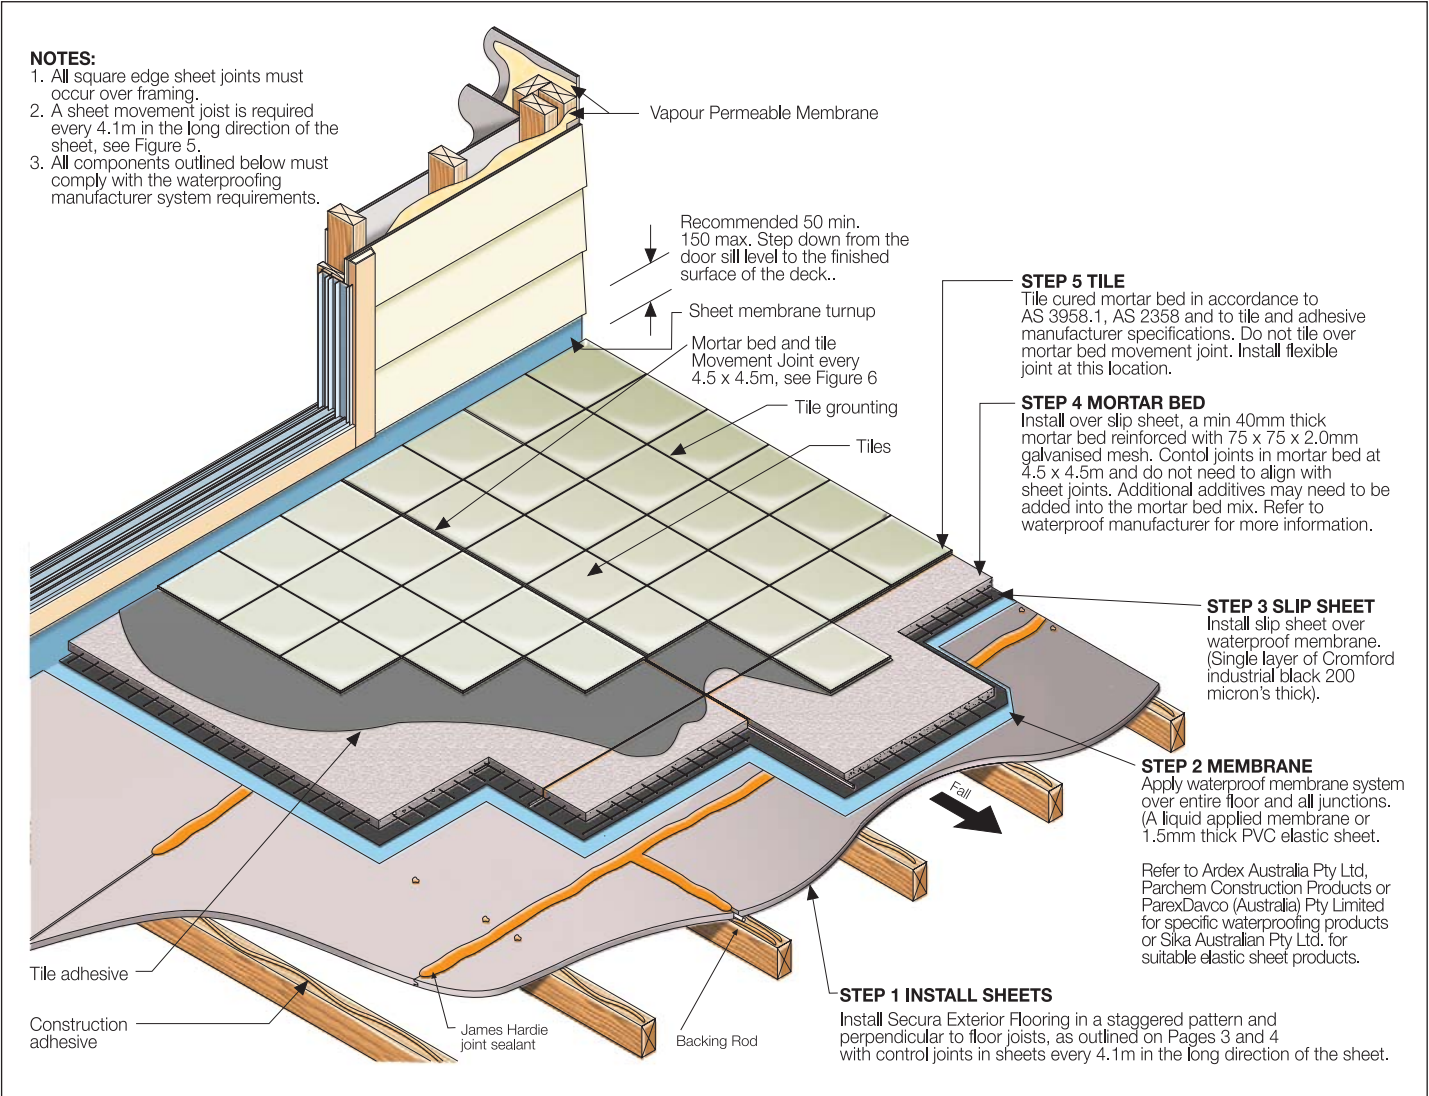

FIGURE 20 METHOD 2 - METHOD INSTALLATION
Refer to Figure 20.
- Only suitable with the flexible sheet membrane and mortar bed deck option, Figure 20.
This waterproofed deck includes installing a membrane and slip sheet under a tiled mortar bed, see Figure 20.